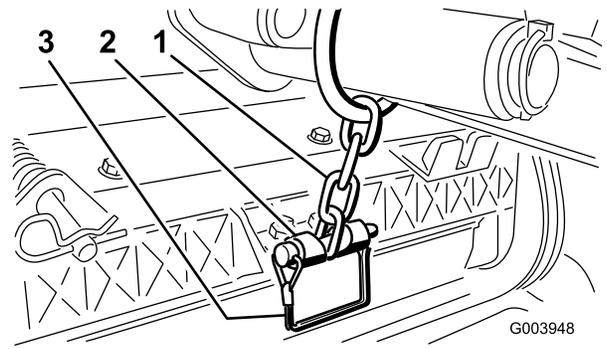

Figure 10
11. Secure the lift arm chain to the chain bracket with the snapper pin (Figure 10). Use the number of chain links described in the cutting unit *Operator's Manual*.